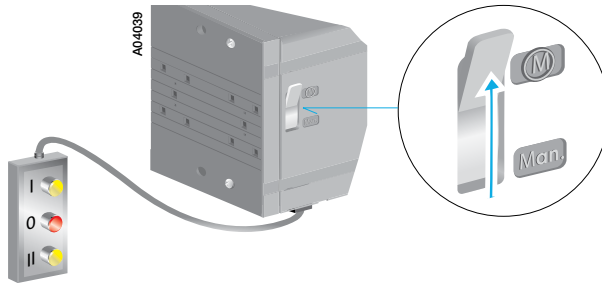

Figure 6.2 Motor/Manual selection switch in the Motor (M) position
- Turn the Motor/Manual selection switch to the Motor (M) position, see Figure 6.2.